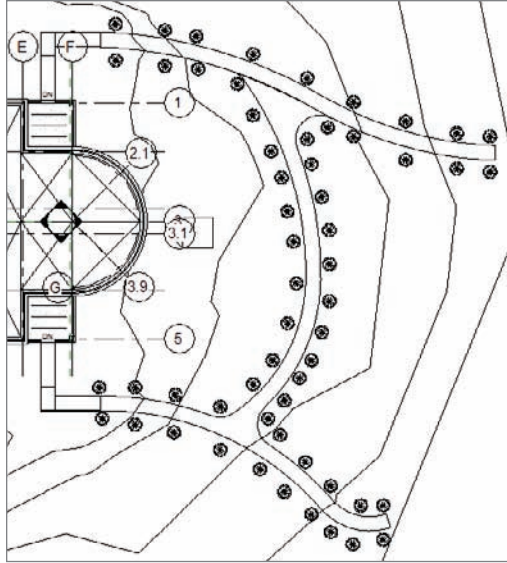

FIGURE 18.15 Adding the shrubs to the walkway
6. In the Change Element Type menu In the Properties dialog, click the RCP Shrub Boxwood 2'-9" and line your walkway, as shown in Figure 18.15.